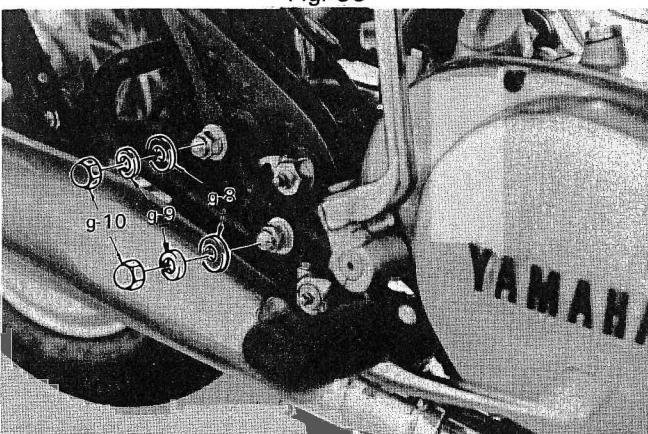

Fig. 39
32. Install the right foot rest assembly using two spring washers (g-9), two plain washers (g-8) and two crown nuts (g-10). (Fig. 39)